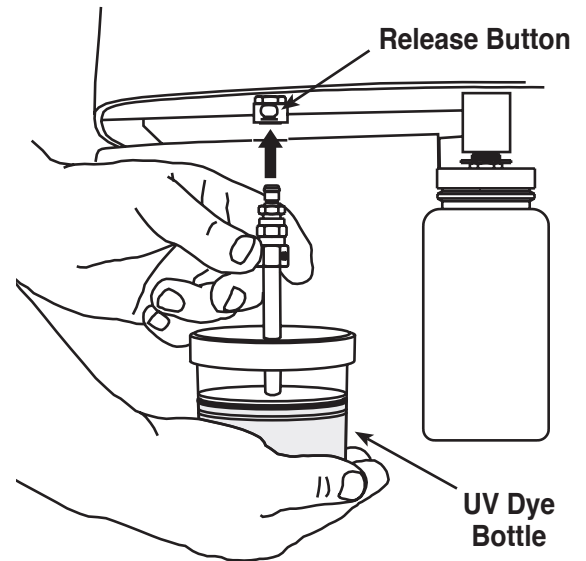

Figure 2
6. Refer to Figure 2. Hold the assembly by the connector while supporting the bottom of the plastic bottle to keep the piston in contact with the UV dye. Snap the connector into the coupler on the unit.